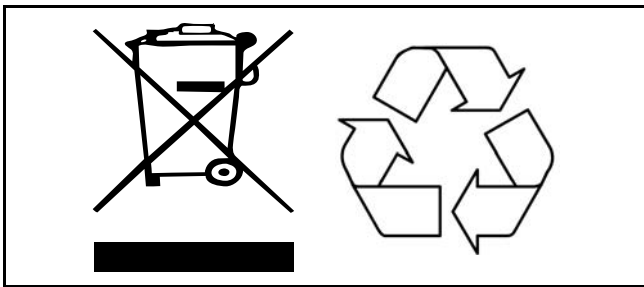

Fig. 2
- For recycling and disposal of the batteries, the rules according to the WEEE directive (Waste of Electronic and Electrical Equipment) as well as local laws and regulations must be followed. If not they may explode, leak and cause personal injury. When returning batteries, insulate their terminals with adhesive tape. Otherwise, the residual electricity in used batteries may cause fire or explosion. Fig. 2 below shows the symbols for disposal and recycling.